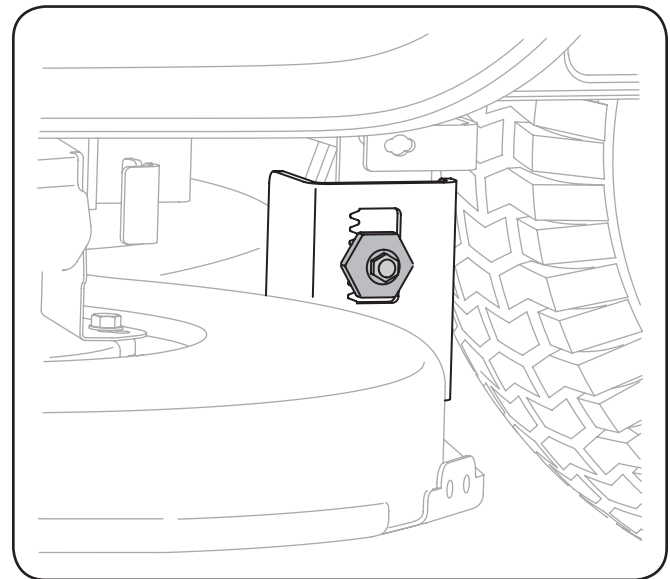

Figure 6-5
3. Loosen, but do NOT remove, the hex cap screw on the left deck hanger bracket. See Fig. 6-5.